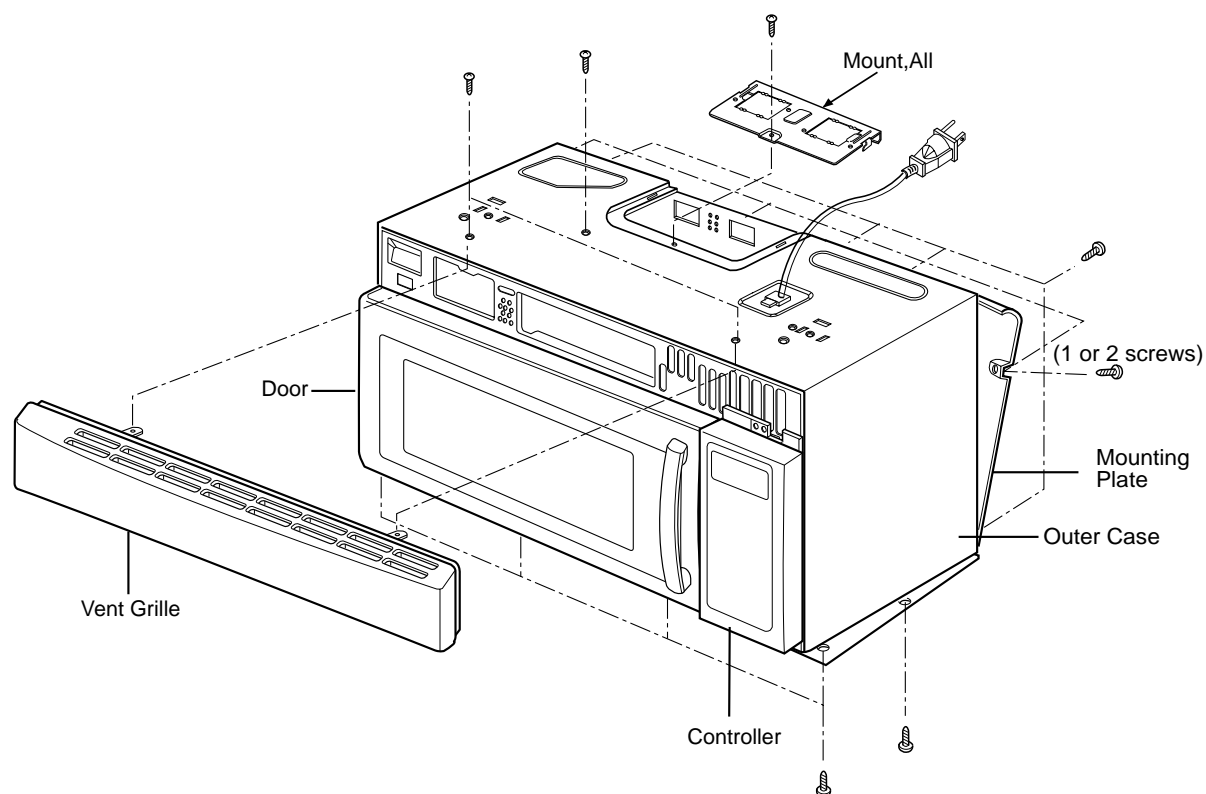

Figure 8
B. REMOVING THE OUT CASE(Figure 8)
- (1) Remove the vent grille by removing two screws securing it to the out case.
- (2) Remove two screws securing it to the air duct.
- (3) Remove the mounting plate by turning the screws (1 or 2 screws) securing it to the out case.
- (4) Remove two screws on the left central edge and one screws on the right central edge of Base plate. Remove the Mount, All from the out case by removing one screw securing it to the out case.
- (5) Remove the outcase with disconnecting power cord connector.